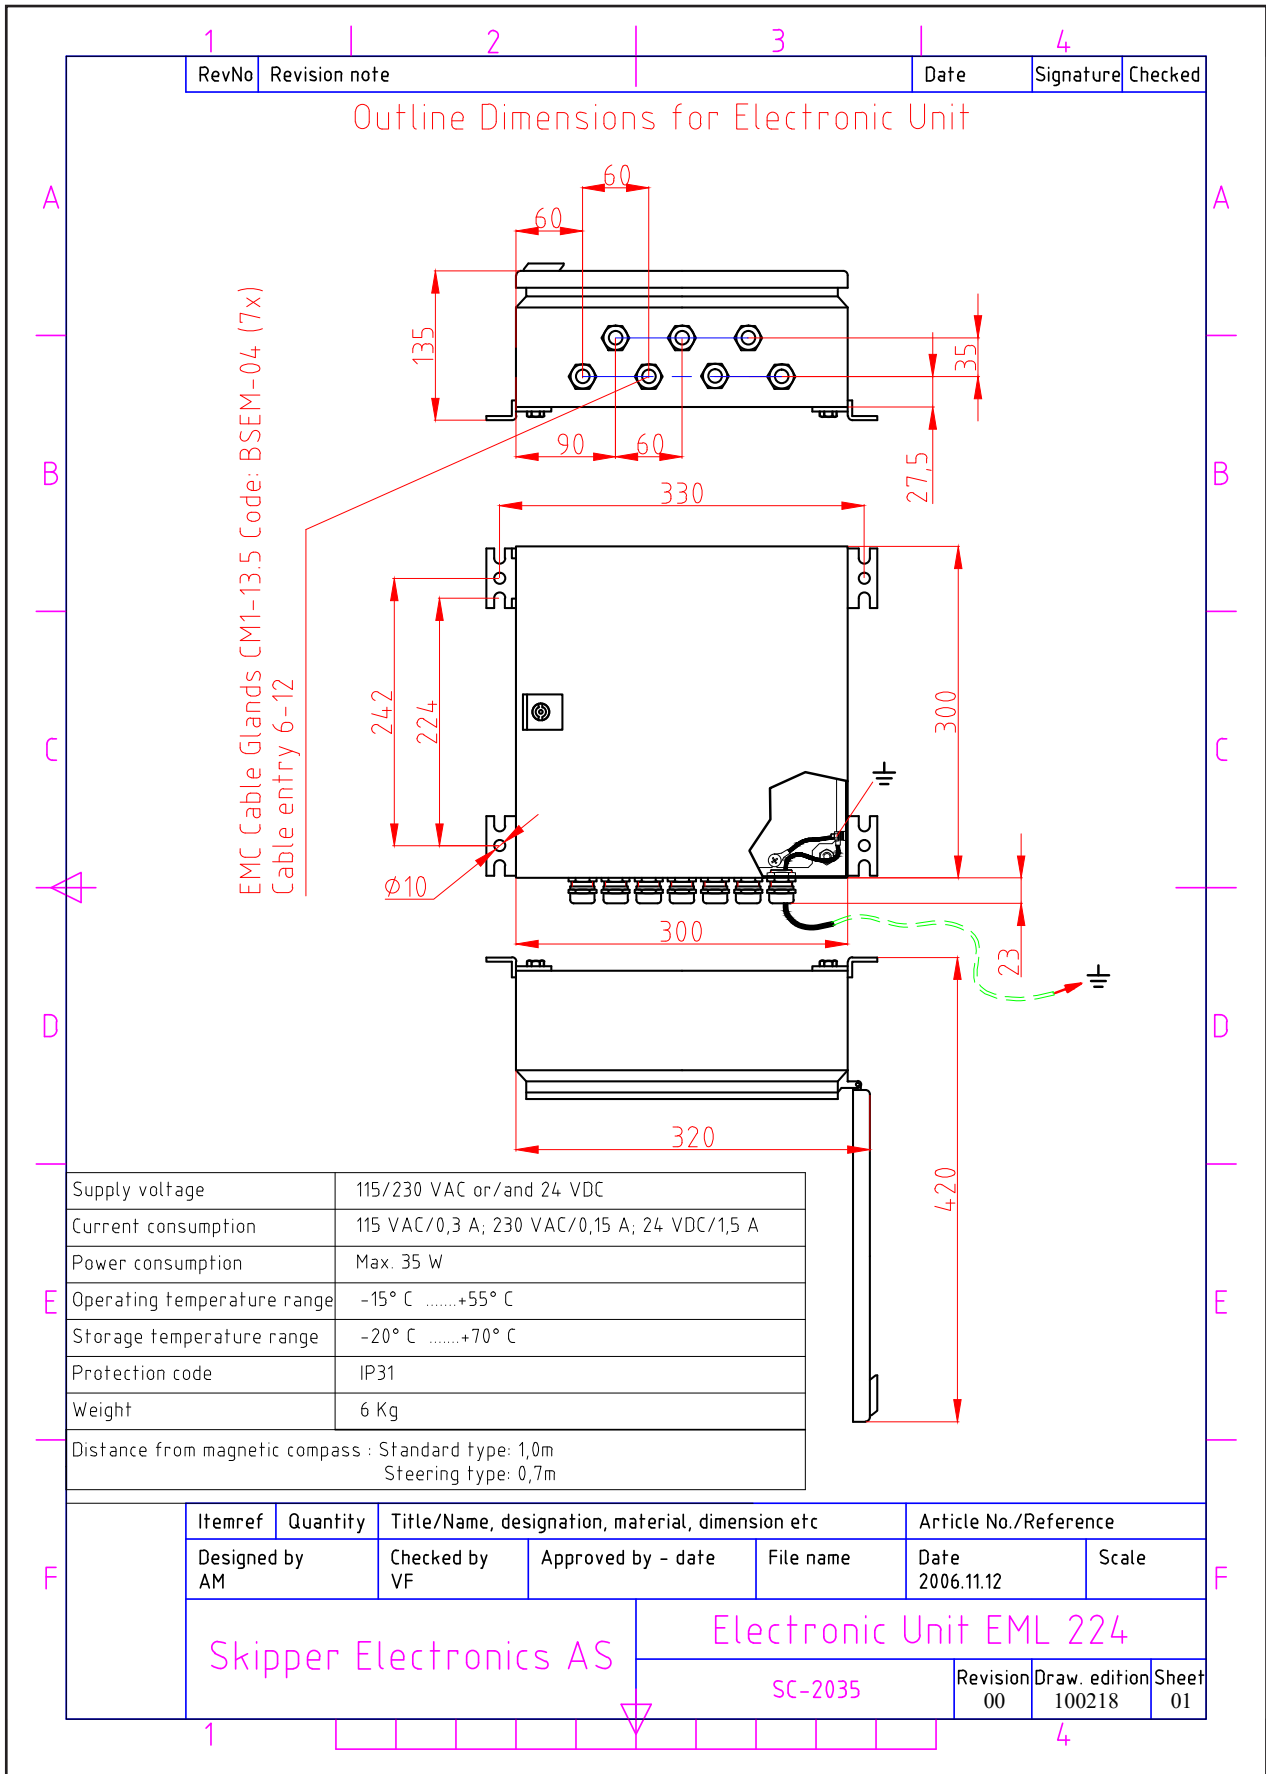

Fig. 11.4 Outline dimensions Electronic Unit
- Fig. 11.4 Outline dimensions electronic unit. See “Fig. 11.4 Outline dimensions Electronic Unit” on page 63.